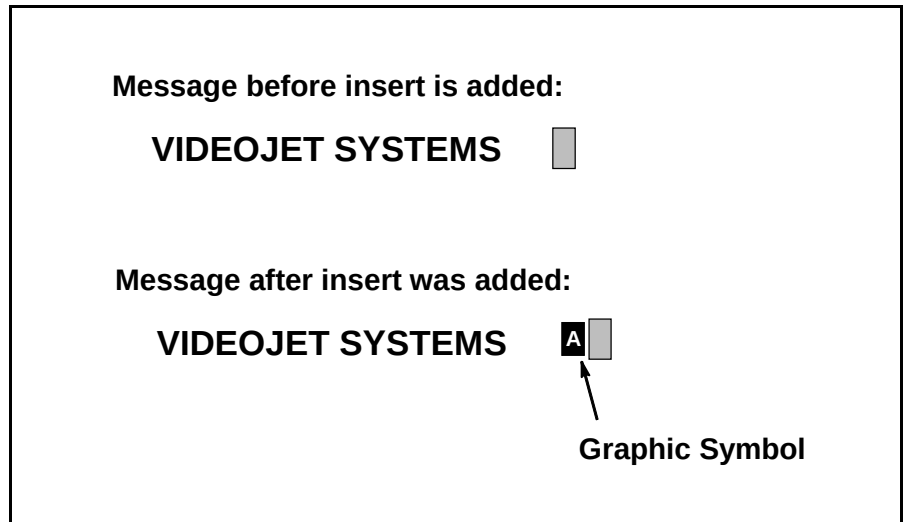

Figure 6-47. Message with a Graphic Insert
- If NO, the insert will appear in the message as a “graphic symbol.” Refer to Figure 6-47. The procedure to add the graphic insert is completed.
5. Press the **ENTER** key. Frame <03 INSERT> reappears in the display screen, and the insert will appear in the message as a “graphic symbol.” Refer to Figure 6-47.